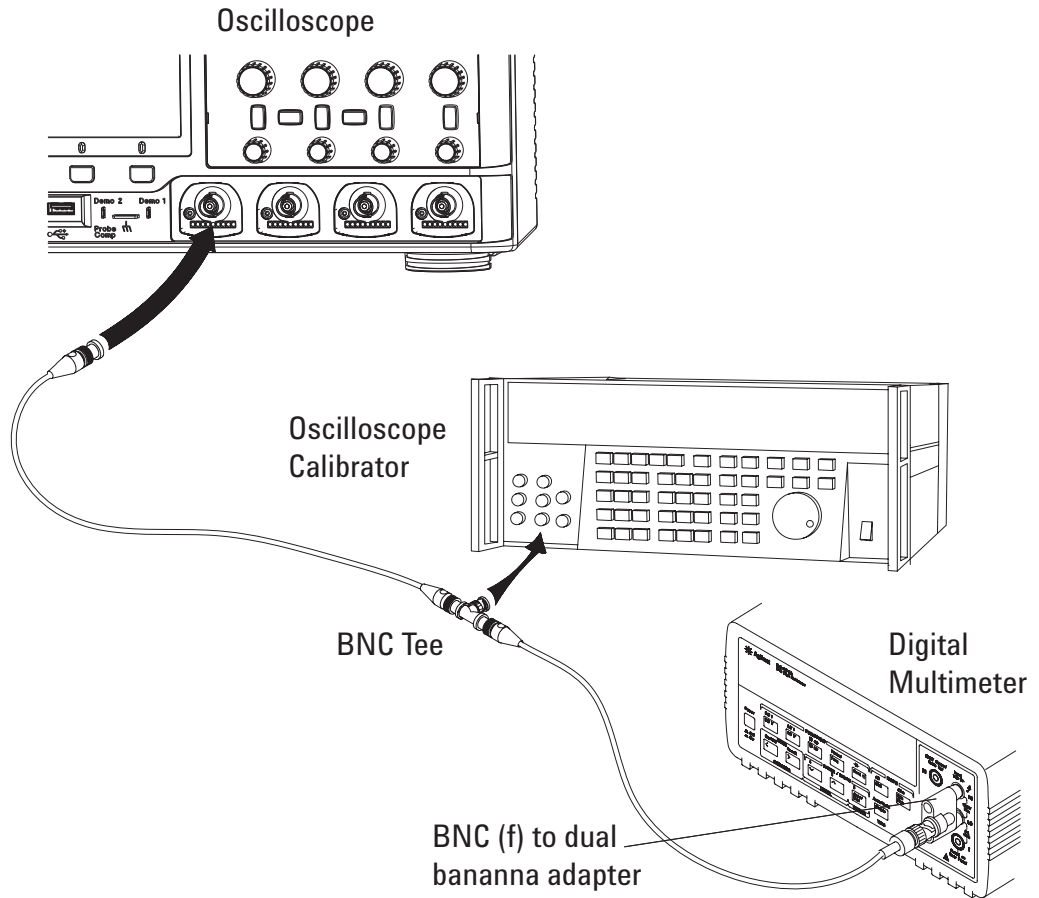

Figure 3 Setting up Equipment for DC Vertical Gain Accuracy Test
- 6 Use the BNC tee and cables to connect the oscilloscope calibrator /power supply to both the oscilloscope and the multimeter (see **Figure 3**).